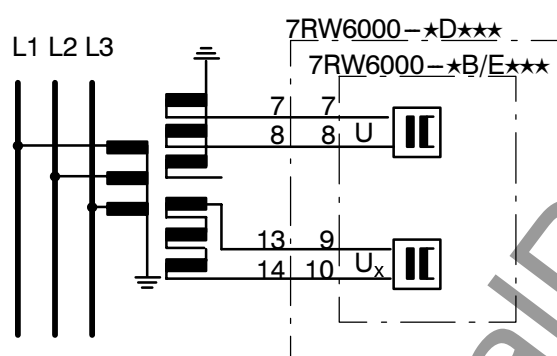
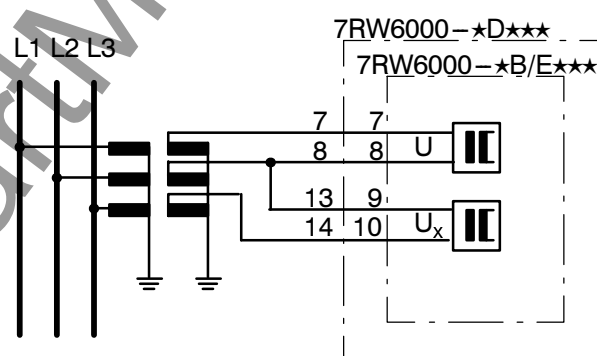

Figure 5.4 Connection example for two independent single-phase voltages
Figure 5.5 Connection example for two phase-to-phase voltages in V-connection
be used for a separate and independent measured voltage (see Figure 5.4). Alternatively, the two inputs can be connected phase-to-phase to a three-phase system in V-connection (see Figure 5.5).
- Is the phase relationship of the voltage transformers correct? The relay may be connected corresponding to Figure 5.4 (single-phase, whereby input  $U_x$  may be left open) or to Figure 5.5 (V-connection, whereby the main v.t.s may be installed in three-phase or V-connection). This must be in accordance with parameter "MEAS" (address 7901, refer to Section 5.4.2).